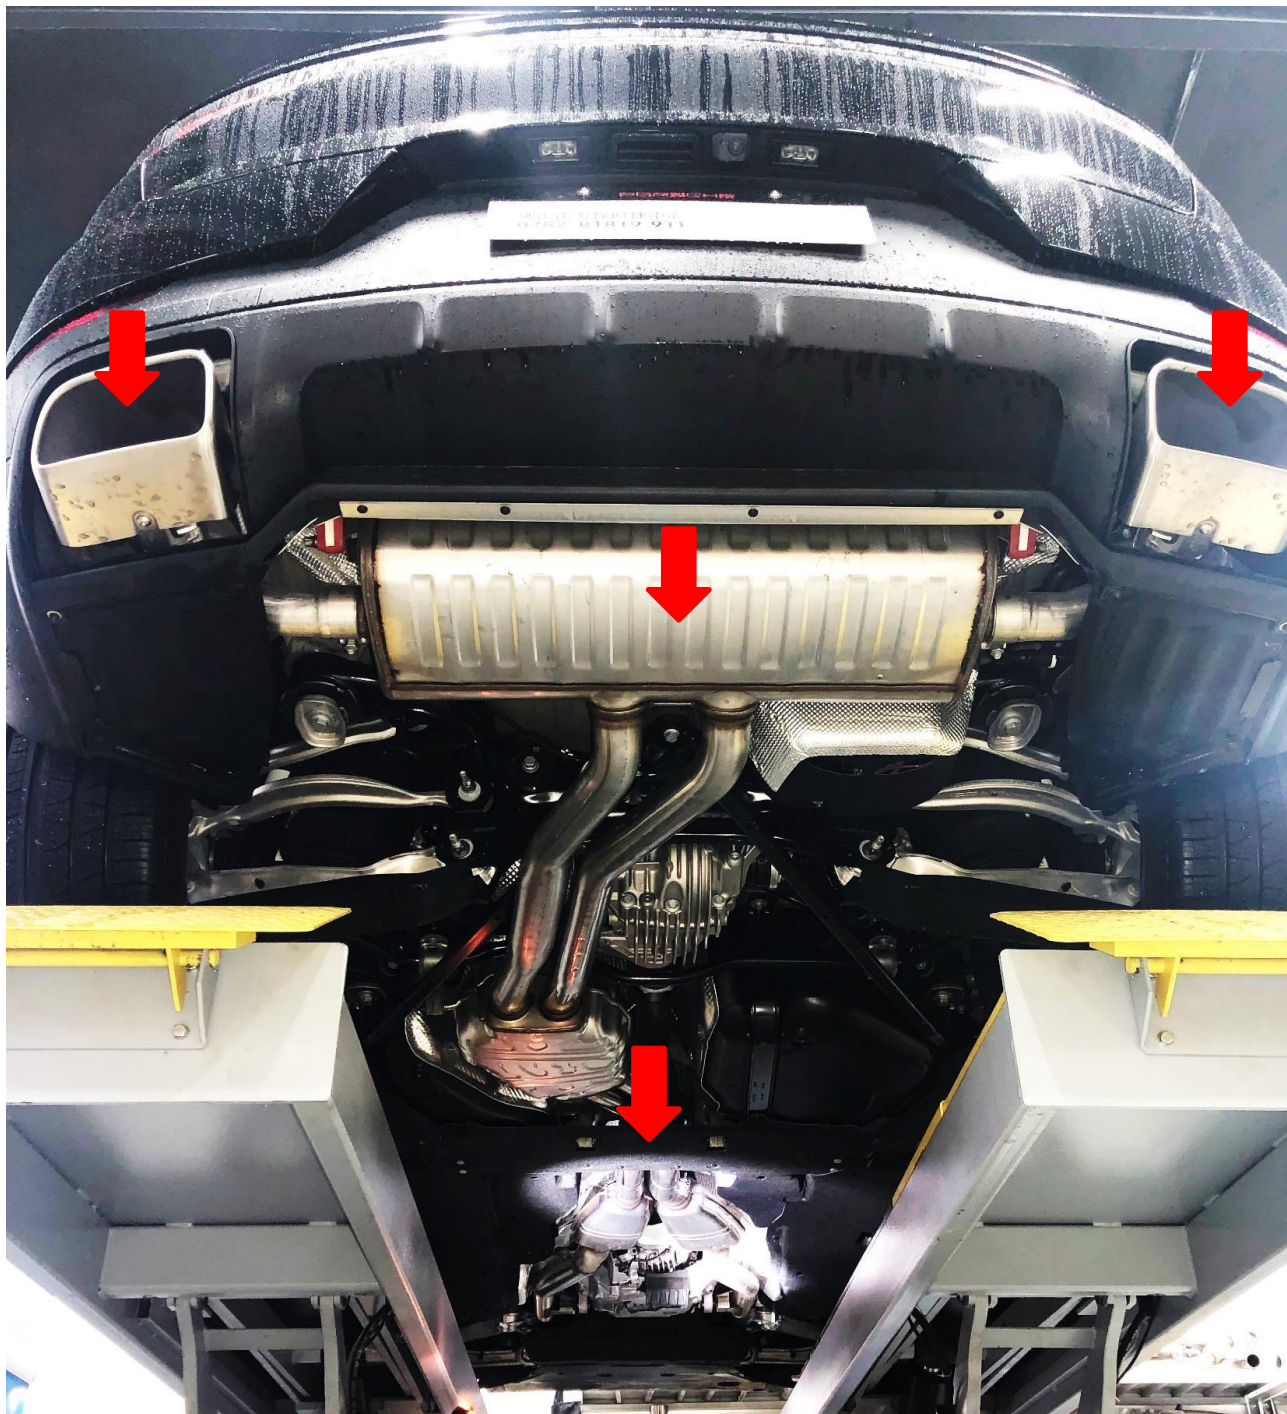

Figure 2
2. Remove the lower guard plate, original catback system and the muffler outlet pipe. (Figure 2)